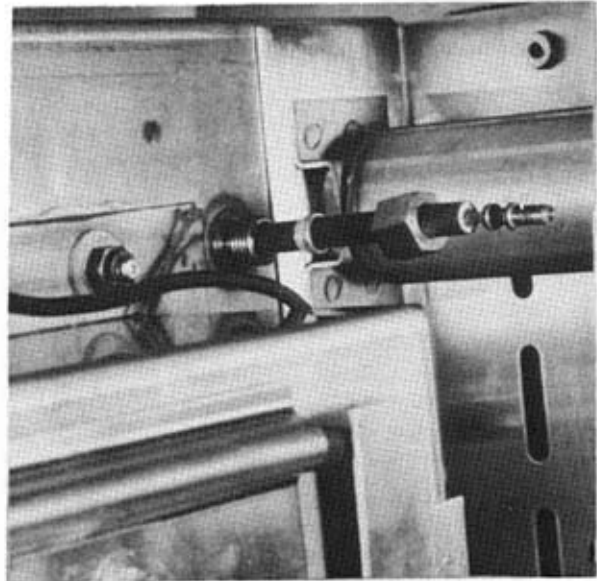

FIG. 23
8. From inside of cabinet, tap heaters downward allowing ferrule to unseat from bushing on bottom of base assembly (See Figure 23).
9. Remove the two (2) ferrules (one on each heater) with wire cutters.